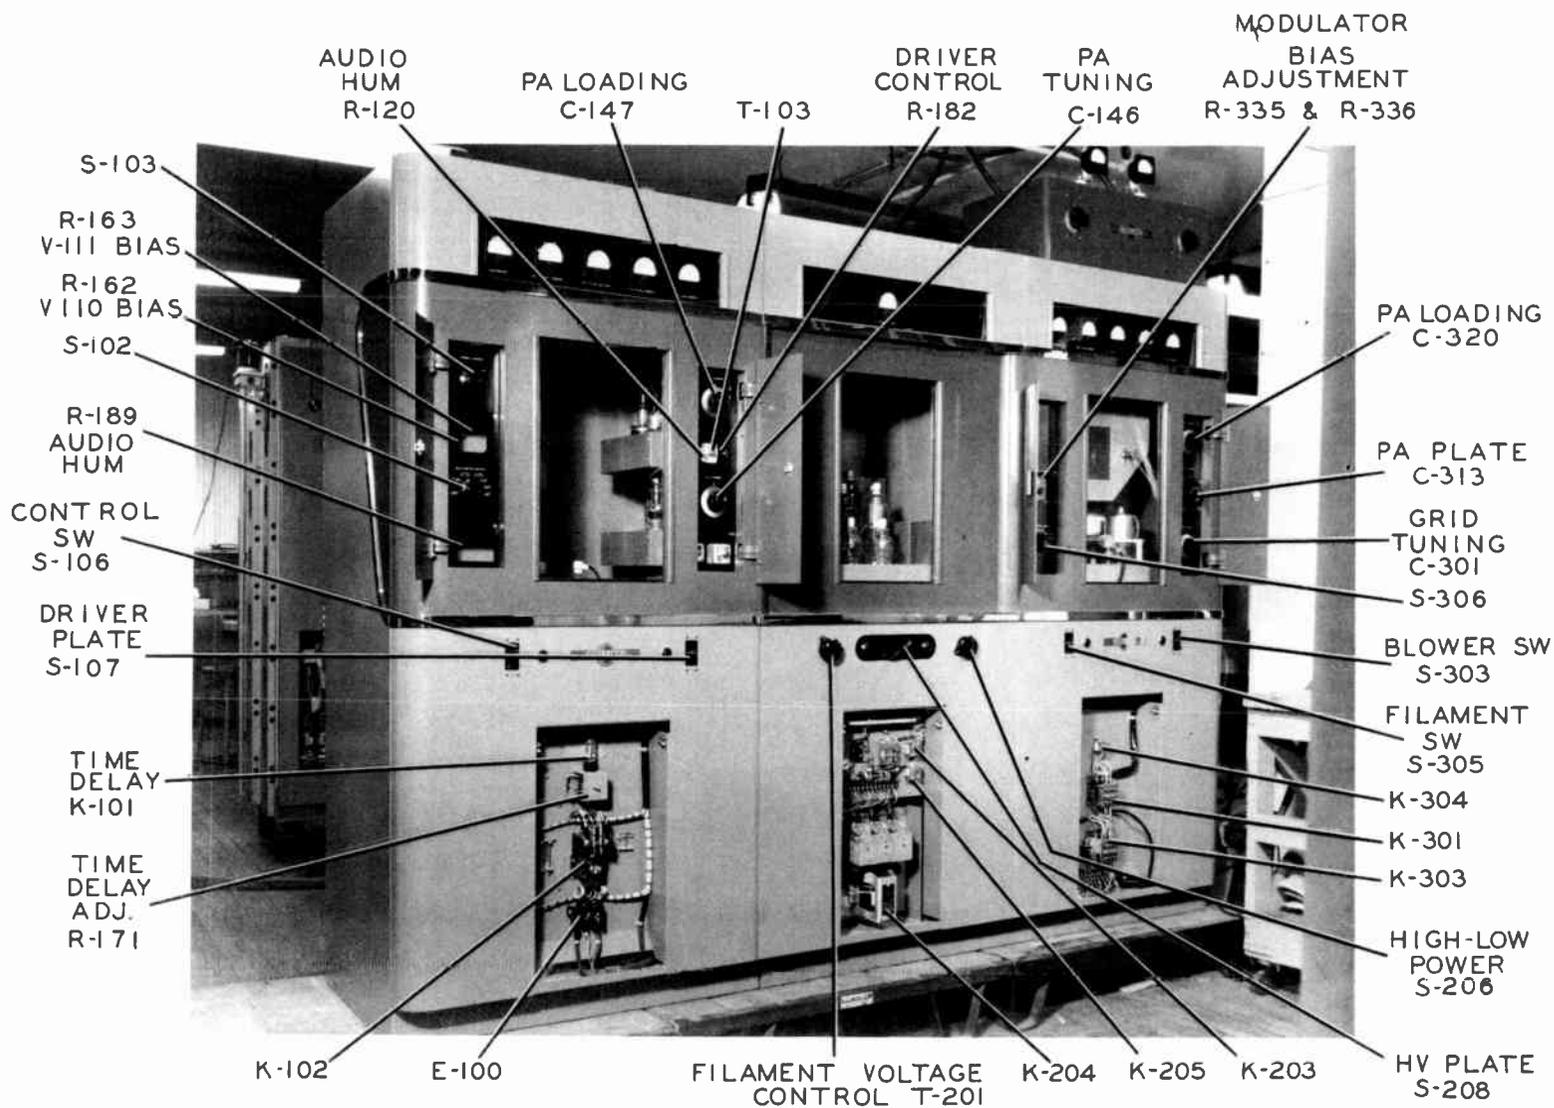

Figure 3-1. 2LE/M Operating Controls and Parts Arrangement, Front View.
3.3 DESCRIPTION OF OPERATING CONTROLS. (See figure 3-1.)
Multimeter switch S-102 is a two-pole seven-position switch located behind the left door on the front of the driver cabinet as shown in figure 3-1. This switch inserts multimeter M-104 into any one of seven driver circuits. Table 3-1 lists the multimeter switch positions and typical readings for these circuits. The full scale reading of the multimeter is indicated for each switch position.
Power change switch S-103 is located behind the left door on the front of the cabinet as shown in figure 3-1. A resistor is connected in series with the high voltage to the r-f driver amplifier plate circuit. The power change switch, S-103, is connected to short this resistor for high power operation and remove the short for tuning operation. This switch is for initial tuning and may be used when large corrections of tuning are necessary, otherwise it is always used in the HIGH power position.
The first buffer tank circuit trimmers, C-114 and C-115, are screwdriver adjustments located behind the lower right inspection plate. The location of these two trimmers is shown in figure 3-1. They should be adjusted for maximum grid drive to the 807 rf driver stage. The trimmers are connected in parallel as shown in figure 8-2. One of the trimmers should be adjusted to give a good tuning range with the second trimmer.
C-125 and C-126, the 807 plate circuit trimmers, are screwdriver adjustments located behind the upper right inspection plate. The location of these two trimmers is shown in figure 3-1. They should be adjusted for maximum grid drive to the driver amplifier. The trimmers are connected in parallel as shown in figure 8-2. One of the trimmers should be adjusted to give a good tuning range with the second trimmer. The first trimmer adjustment opening should then be sealed with scotch tape and all adjustments made with the second trimmer.
RF drive control, R-182, is a screwdriver adjustment located behind the upper right-hand inspection plate as shown in figure 3-1. It is used to
The driver amplifier plate circuit tuning and loading controls C-146 and C-147 are located behind the right-hand door on the front of the driver cabinet as shown in figure 3-1. The PA TUNING Control is used to resonate the power amplifier plate circuit. An increase in PA grid current, ~~once the PA grid circuit is resonated,~~ is obtained by reducing the capacity of the PA LOADING capacitor, C-147, while simultaneously returning the power amplifier plate circuit to resonance by means of the PA TUNING control. Initial tuning should be done with the driver cabinet POWER CHANGE switch in the LOW position. Recheck these controls for possible reaction after the PA GRID has been tuned.
The power amplifier plate circuit tuning and loading controls, C-313 and C-320, are located behind the right-hand door on the front of the transmitter cabinet as shown in figure 3-1. The PA tuning controls is used to resonate the power amplifier plate circuit. An increase in loading is obtained by reducing the capacity of the power amplifier loading capacitor, C-330, while simultaneously returning the power amplifier plate circuit to resonance by means of the PA tuning control. With a pi-L output network of the type used in the 21E/M transmitter, any adjustment of the PA loading control will detune the output network and cause the plate current to soar. Care must be exercised to keep the power amplifier tuning at resonance whenever the PA loading control is adjusted. The loading should be increased until the rf line current is slightly less than the desired value. The PA tuning control should then be adjusted slightly to the side of resonance that gives an increase in rf line current. The power amplifier plate current will also increase; however, the increase in power to the rf line constitutes a large proportion of the increase in power to the power amplifier circuit, thus yielding a higher plate efficiency. Adjust the PA tuning and PA loading controls to the point where the desired amount of rf line current is obtained with the highest operating efficiency. The highest efficiency will always be obtained with the power amplifier plate circuit slightly detuned. Neutralizing capacitor, C-310, located between the two power amplifier tubes, does not require readjustment.
Crystal selector switch S-101 is located in the center of the area behind the lower right inspection plate as indicated in figure 3-1. The switch shaft is slotted for screwdriver operation. When the switch is turned clockwise the crystal toward the right side of the chassis (as viewed from the front of the transmitter as in figure 7-8) is selected.
Crystal frequency trimmer controls C-101 and C-102 are located behind the lower right inspection plate as indicated in figure 3-1. These two controls provide for small adjustments in the crystal frequency. C-101, the upper control, adjusts the frequency of Y-101, the left-hand crystal as seen from the front of the transmitter.
Audio driver bias adjustments R-162 and R-163 are located behind the upper left inspection plate as indicated in figure 3-1. These two screwdriver adjustments control the amount of negative bias applied to the grids of the individual driver tubes. Turning the controls clockwise increases the amount of bias applied to the tubes. To adjust these two controls, first turn them completely clockwise, then turn the driver plate supply on and alternately adjust one control and then the other 30 ma at a time until 130 ma MODULATOR PLATE CURRENT (driver cabinet) is obtained. Then adjust these controls for minimum distortion when adjusting the transmitter for minimum distortion. The audio driver plate current will normally be 125 to 150 ma.
Audio hum controls R-120 and R-189 are screwdriver adjustments. R-120 is located behind the upper right inspection plate of the driver cabinet as shown in figure 3-1. R-189 is located behind the lower left inspection plate. They are variable resistors used to shift the ground point of the driven amplifier filament circuit and the audio driver filament circuit to points which will minimize the hum caused by the ac filament voltages.